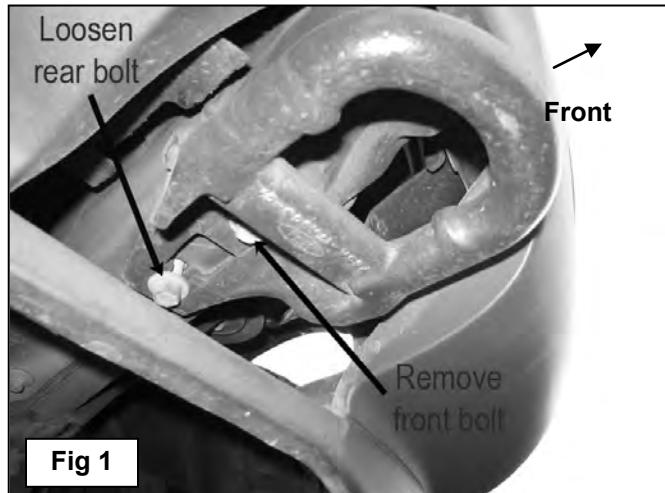

Fig 1
- Remove the forward tow hook bolt. Loosen but do not remove the rear bolt. Slide the tow hook out from under the rear bolt. **IMPORTANT:** Loosen but leave the rear bolt in to hold the factory nut plate in place inside the frame, (**Figure 1**).